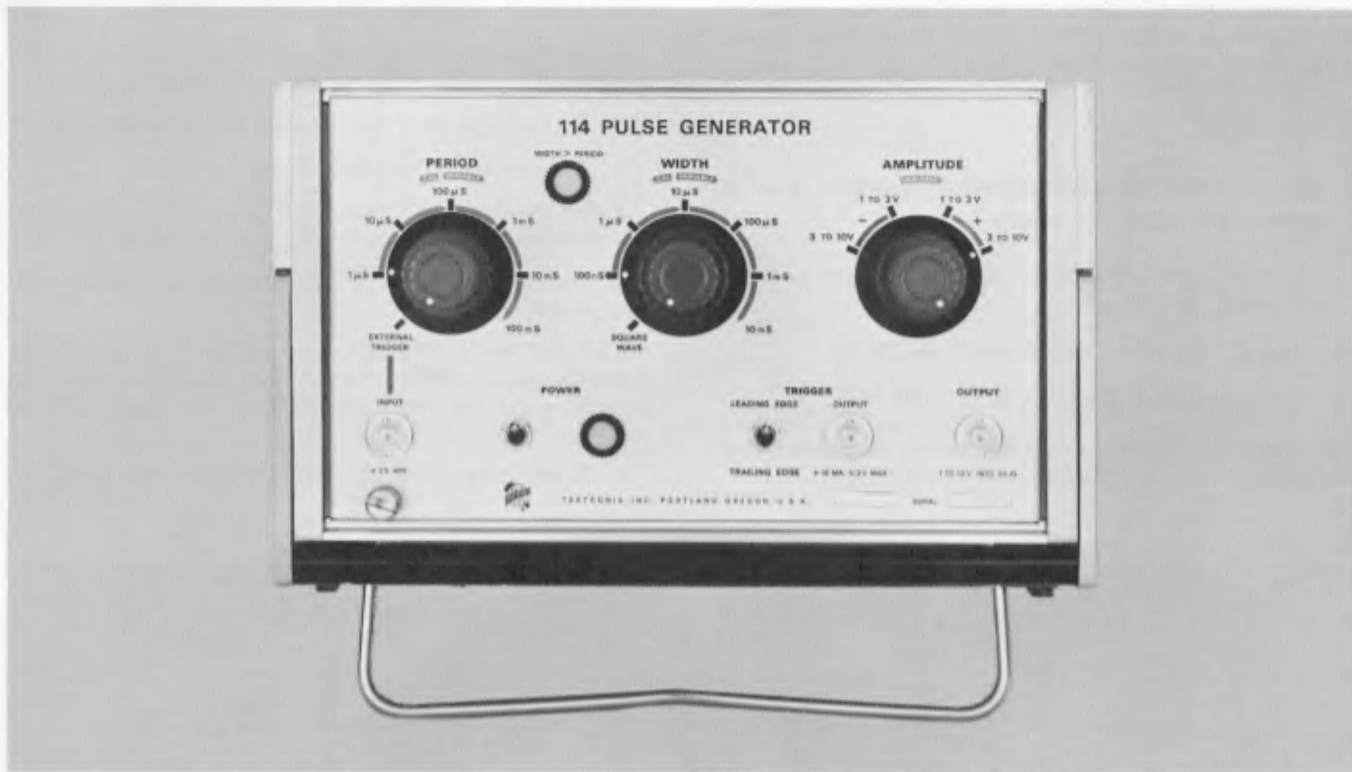

Fig. 4-8. Control settings for adjusting the 1 microsecond period capacitor.
a. Set the Type 114 PERIOD control to 1 μs, the WIDTH control to 100 nS, and both PERIOD — and WIDTH — VARIABLE controls to CAL (see Fig. 4-8).